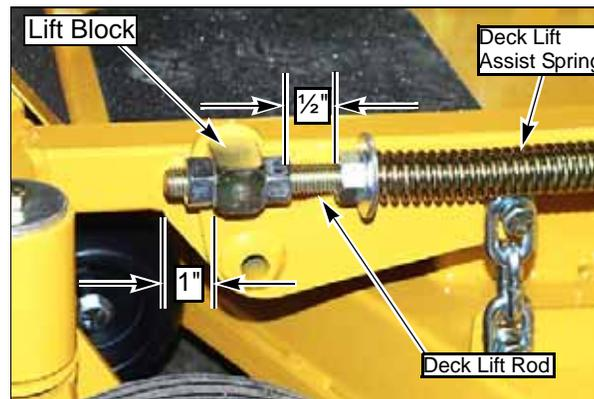

FIG. 77
9. Set the amount of threads protruding on the deck lift rod from the lift block at approximately 1" (FIG. 77).
27. Compress the deck lift assist springs so that there is $\frac{1}{2}$ " of space between the front nut on the spring and the rear nut on the deck lift block (FIG. 77). Typical both sides.